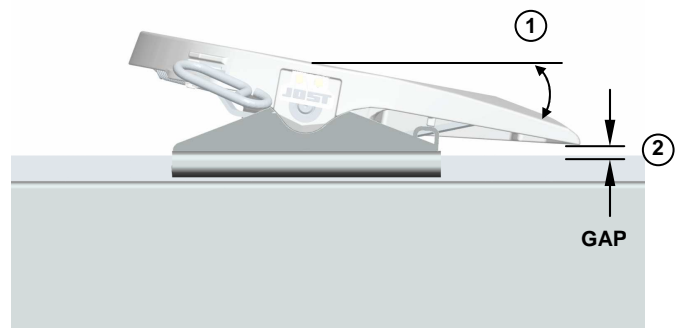

FIGURE 6
2. The topplate tilt angle must be 20 degrees or less. (figure 6 item 1)
3. The tails of the topplate must not contact the frame rails or the slide bed. (item 2)